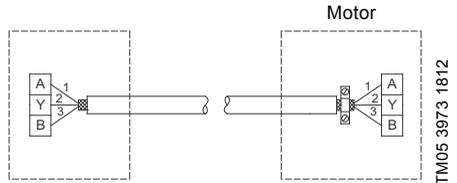

Fig. 21 Connection with screened 3-core cable
- If the unit has no cable clamp as shown in fig. 21, leave the screen unconnected at this end.